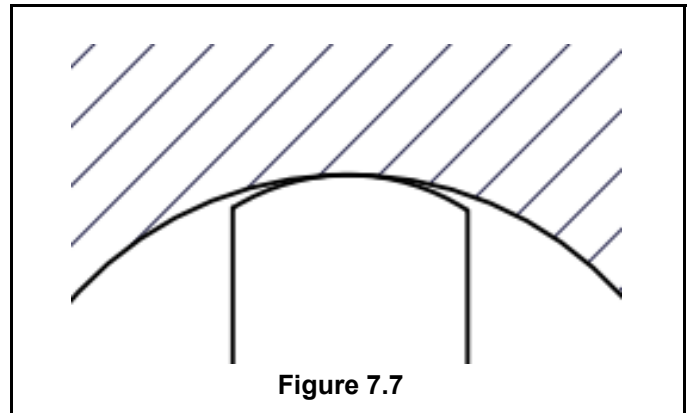

Figure 7.7
2. When the workpiece's clamping diameter is larger than the top jaws' clamping diameter, a line contact occurs during clamping as shown in Figure 7.7. This condition is acceptable and will produce accurate and concentric workholding.